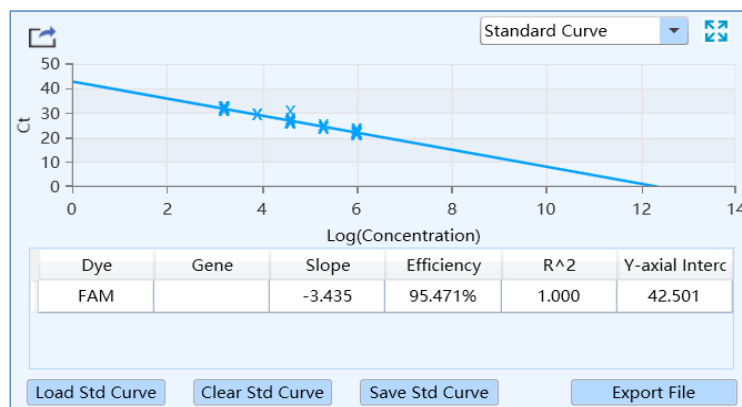

Figure D-9.2. Abs Quant Analysis Interface - Standard Curve Functional Module
- II. Standard Curve**: displays the threshold Ct value against the initial nucleic acid quantity of each standard sample, as shown in figure D-9.2. For absolute quantification, the standard curve is used to assign initial nucleic acid quantities to unknown samples.